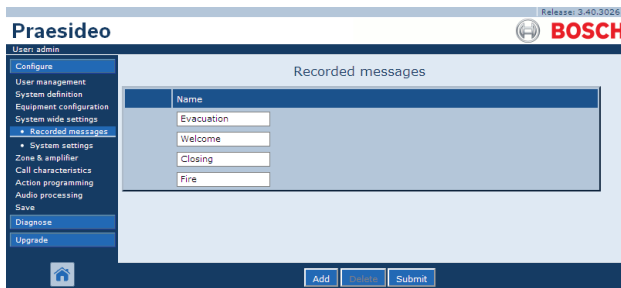

figure 44.6: Unregister a message, step 1
- 1 Go to *Configure > System wide settings > Recorded messages* to open the *Recorded messages* page. A screen similar to the one in figure 44.6 appears in the main frame of the web interface.